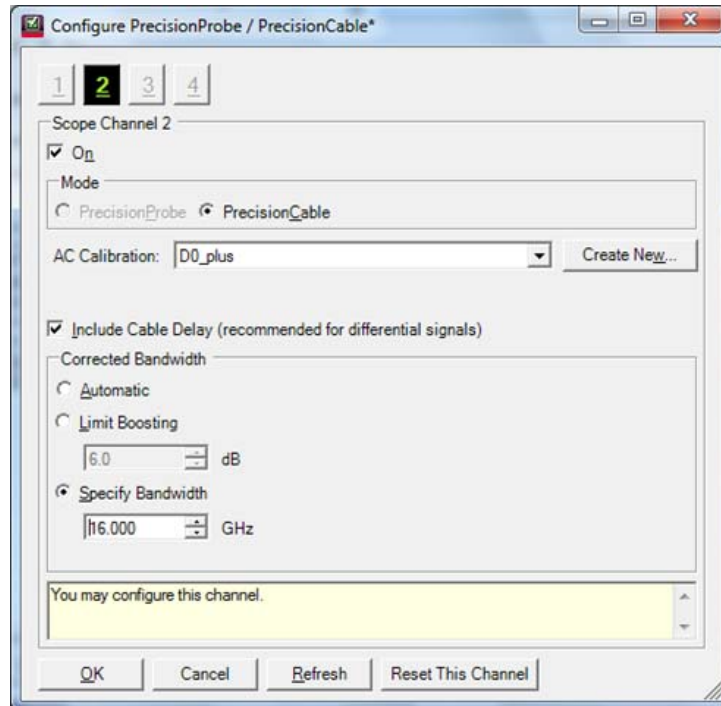

Figure 19 Settings for use of the PrecisionCable calibration file
- 3 Select **Include Cable Delay** (Figure 19) to minimize skew on each line, and specify **16 GHz** of bandwidth because the HDMI application sets the bandwidth of the measurement to 13 GHz. You do not want the combination of this response and the oscilloscope response to produce a lower bandwidth.
If the **Include Cable Delay** and **Specify Bandwidth** controls are grayed out, you may need to clear the **On** check box (Figure 19) and re-select it.